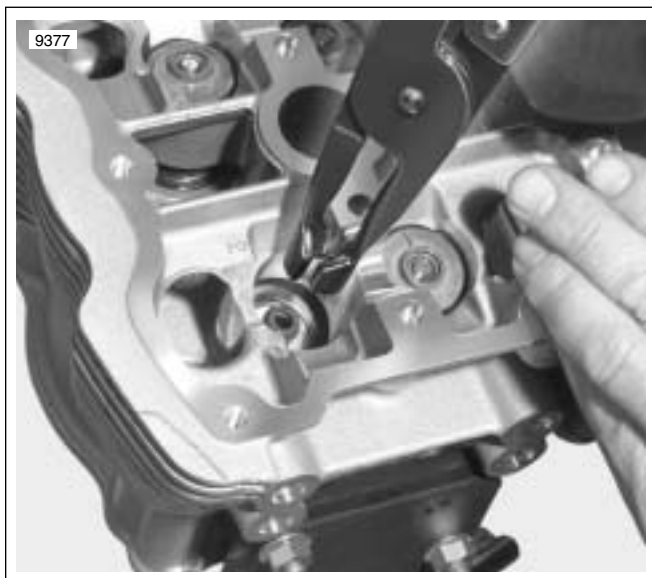

Figure 3-44. Valve Seal
9. See Figure 3-44. Remove valve guide seal with Snap-on tool number YA8230.